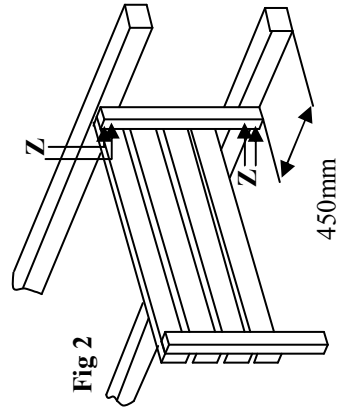

Fig 2
- 3 Position the seat as shown in Fig 2 and fix it to the side section using screws **Z**.